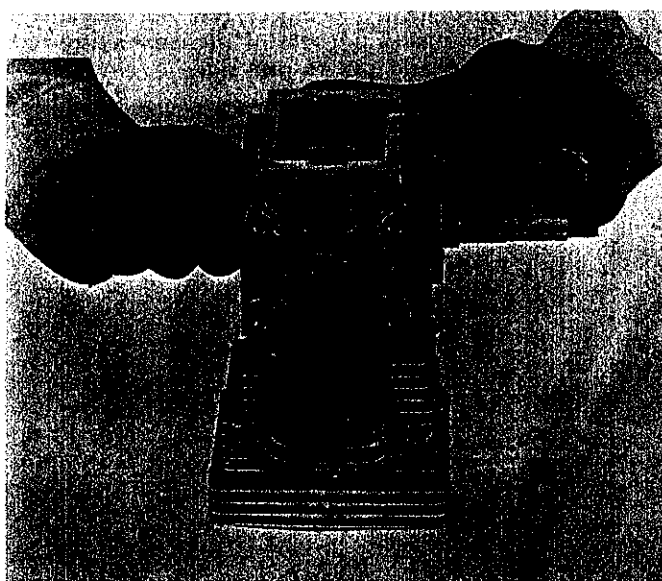

FIGURE 7. REMOVING CONNECTING
9. Turn cylinder upside down as shown in Fig. 7 and remove connecting rod screws. Use T-1582 hex bit and T-1907 adapter with a torque wrench, or T-2911, 5/32" allen wrench, as shown to remove the rod cap screws.